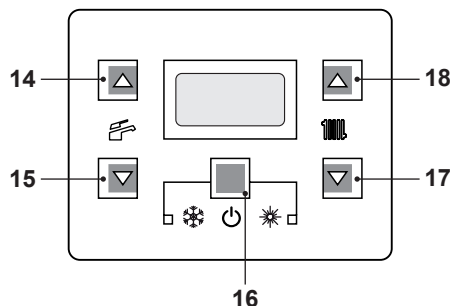

Fig. 7.10
- Press the 16 key for 2 seconds until both  and  symbols appear on the display Fig. 7.10.
- Switch off the boiler by pressing the 16 (Fig. 7.10) key for 2 seconds until the symbol appears on the LCD display (Fig. 7.9).
- Press the 16 key for 2 seconds until both and symbols appear on the display Fig. 7.10.
Press the reset key on the boiler control panel 16 (Fig. 7.10) to reset its functioning.